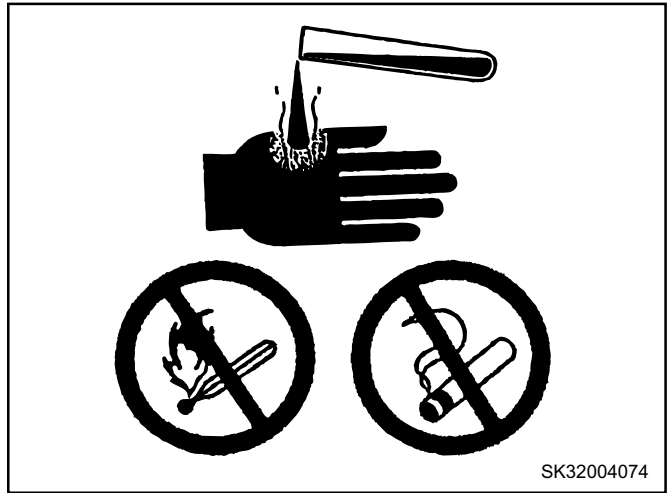

FIGURE 4.32A
3. **BATTERY ELECTROLYTE (ACID) IS CORROSIVE. IF IT COMES IN CONTACT WITH SKIN, EYES OR CLOTHING, FLUSH WITH LARGE AMOUNTS OF WATER AND SEEK IMMEDIATE MEDICAL ATTENTION. SEE FIGURE 4.32A.**
4. **BATTERY ELECTROLYTE (ACID) PRODUCES HYDROGEN GAS THAT IS HIGHLY EXPLOSIVE. DO NOT ALLOW NEAR SPARKS, FIRE OR FLAMES AND DO NOT SMOKE WHEN WORKING WITH BATTERIES. SEE FIGURE 4.32A.**